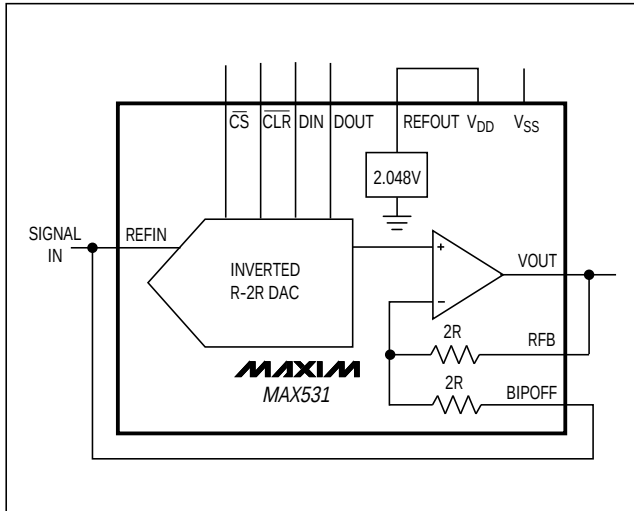

Figure 9. MAX531 Connected as Four-Quadrant Multiplier. The unused REFOUT is connected to V_{DD} .
The MAX531 can be used as a four-quadrant multiplier by connecting BIPOFF to REF and RFB to VOUT, using (1) an offset binary digital code, (2) bipolar power supplies, using dual power supplies, and (3) a bipolar analog input at REF within the range $V_{SS} + 2\text{V}$ to $V_{DD} - 2\text{V}$, as shown in Figure 9.